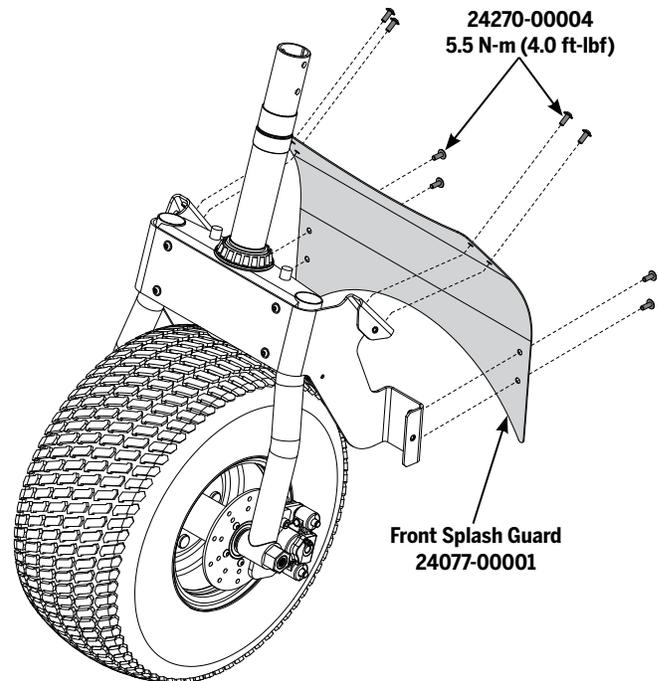

Figure 34: Front Splash Guard
3. Using a 4 mm hex wrench, remove the eight fasteners as shown in Figure 34.
3. Using a 4 mm hex wrench, install the eight fasteners as shown in Figure 34. Torque to **5.5 N-m (4.0 ft-lbf)**.